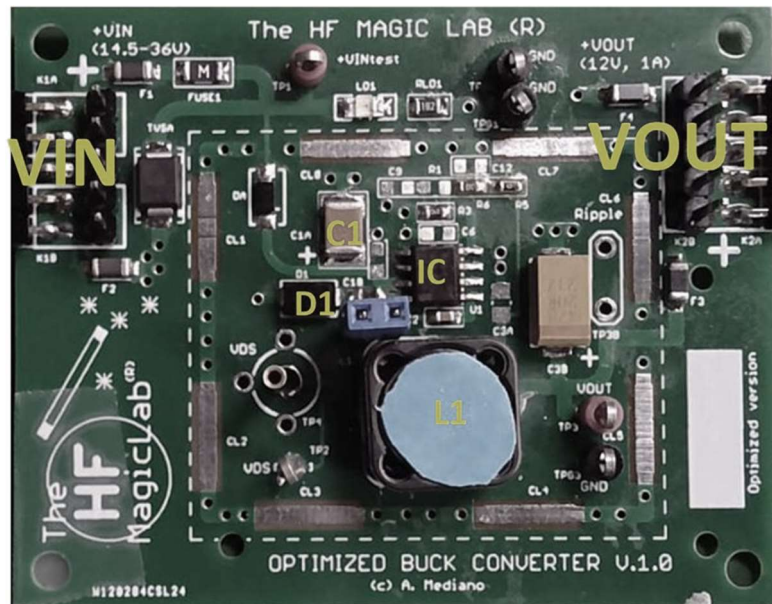

Figure 4 - The Buck converter prototype to be measured.
Figure 4 includes an image of the PCB, clearly marking the locations of the integrated circuit (IC), the inductor, and the diode integral to the converter's functionality.